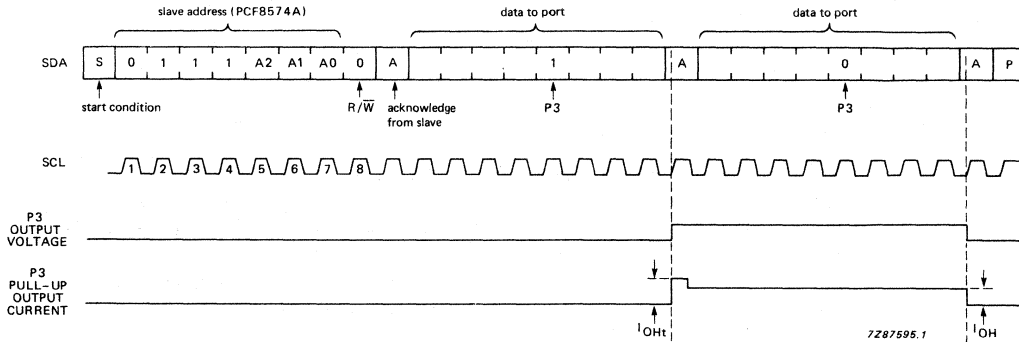

Fig. 15 Transient pull-up current  $I_{OHt}$  while P3 changes from LOW-to-HIGH and back to LOW.
**Quasi-bidirectional I/O ports** (see Fig. 15)